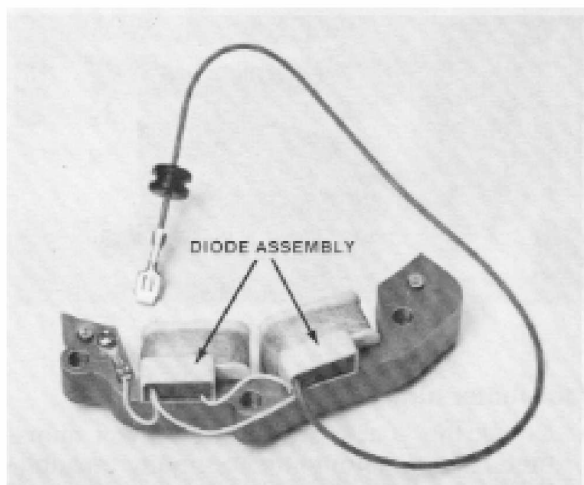

Figure 3-24
5. The alternator coil is equipped with a diode assembly that will rectify the alternator output. See Fig. 3-24.